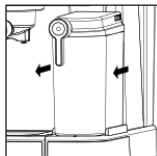
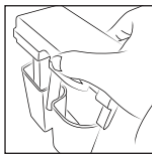

Fig. 1
Fig. 2
- Take the container (11) and pull it towards you (fig. 1), remove the cappuccinator lid (12) from the container (11) (fig. 2). Fill the container (11) with water to the maximal level mark.